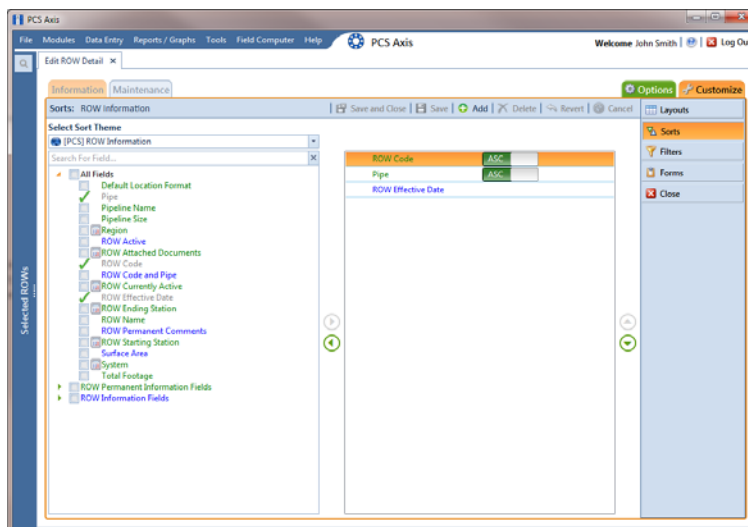

Figure 3-25. Sorts
- 4 Click the **Customize** tab  then the **Sorts** button  to open the *Sorts* page (Figure 3-25).